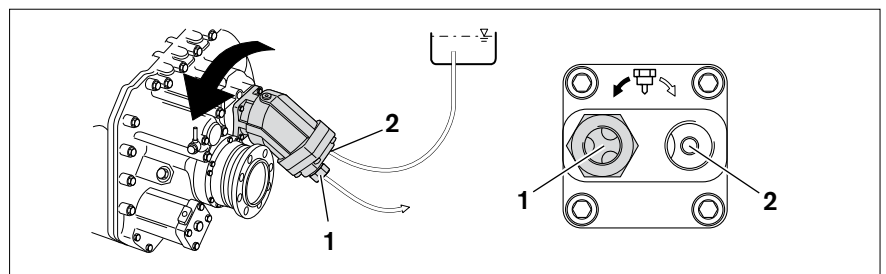

Fig. 11: Pressure connection after conversion – for counter-clockwise rotation of the power take-off (= pump rotates clockwise)
- ▶ To change the direction of rotation of the axial piston unit, you must convert the pressure connection (1) from the right port to the left port, see Fig. 11 (for tightening torques, see Table 7).